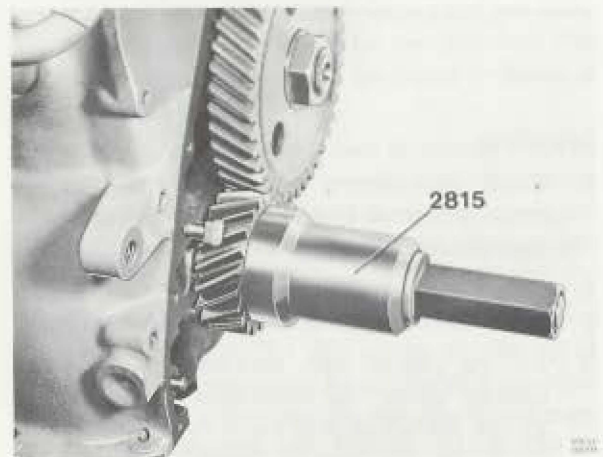

Fig. 21-38. Installing the polygon hub
4. Fit the polygon hub with press tool 2815, Fig. 21-38. Before fitting it, grease the slide surfaces of the hub. Note the marking, punch pops on the end of the crankshaft and polygon hub. Fit the centre bolt and tighten it to a torque of 95-105 Nm (9.5-10.5 kpm = 69-76 lbftf).
2. Fit the polygon hub with press tool 2815, Fig. 21-38. Before installing the hub, grease the hub slide surfaces. **Note the marking, punch pops on the crankshaft end and polygon hub, fit the centre bolt and tighten it to a torque of 95-105 Nm (9.5-10.5 kpm = 69-76 lbftf).**